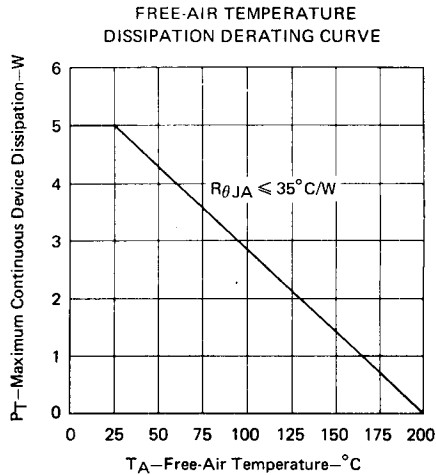

FIGURE 10
4. Derate linearly to 200°C free-air temperature at the rate of 28.6 mW/°C or refer to Dissipation Derating Curve, Figure 10,